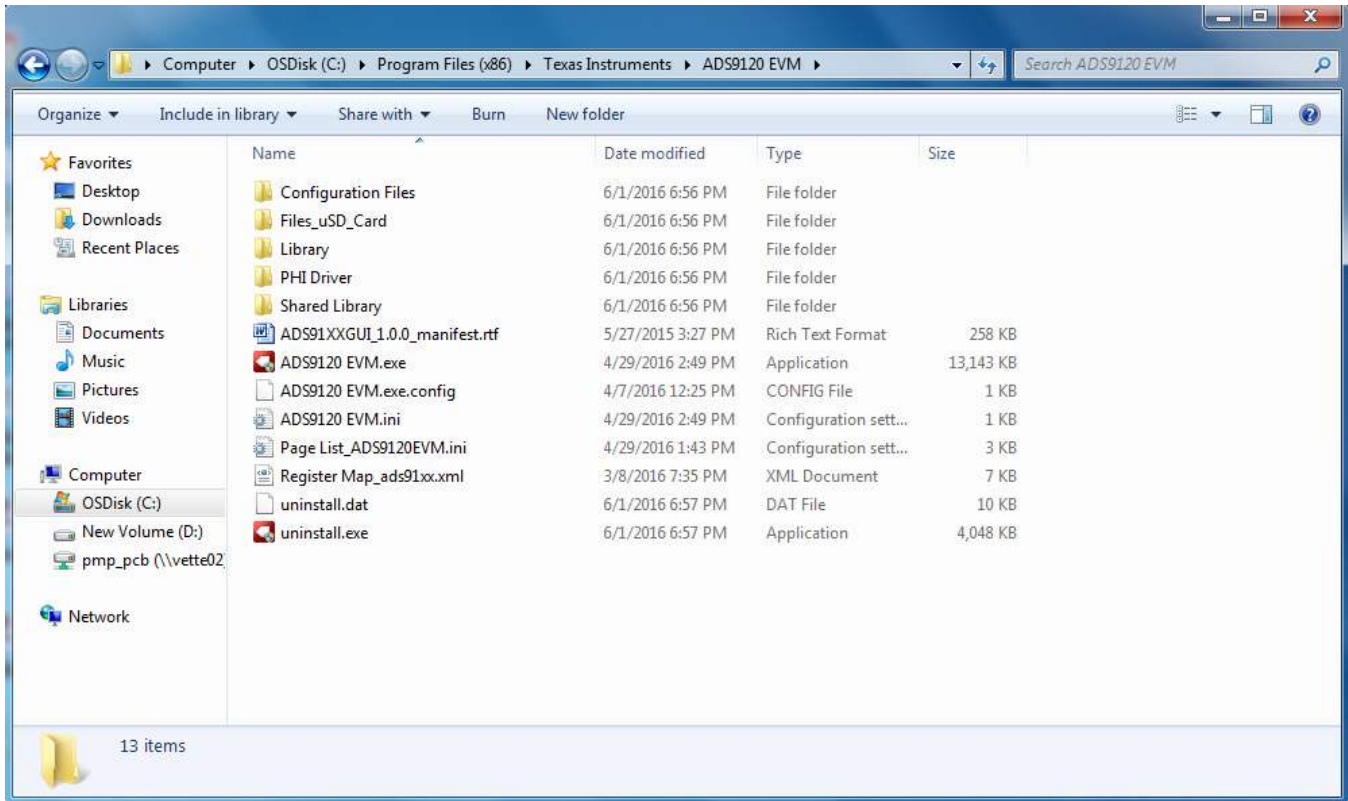

Figure 9. Launch the EVM GUI Software
3. Launch the ADS9120EVM GUI software, as shown in Figure 9.